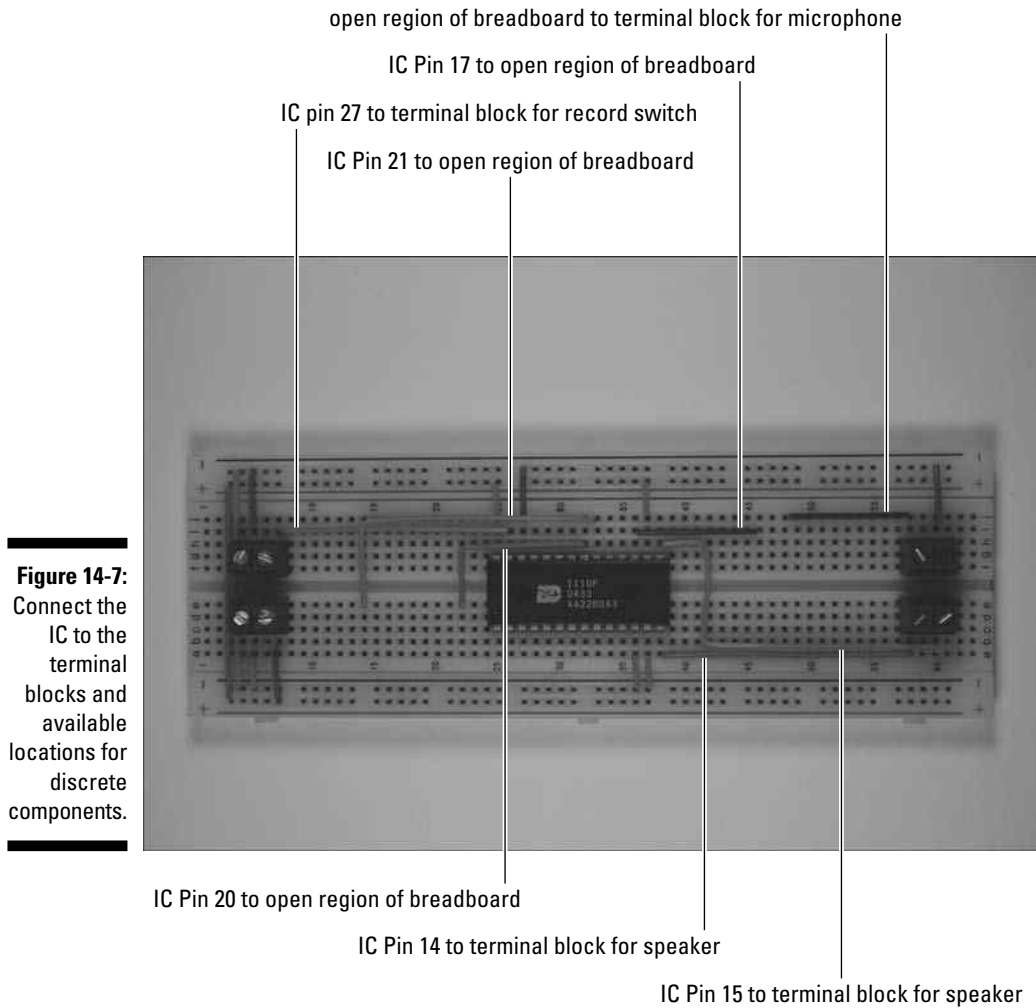

Figure 14-7: Connect the IC to the terminal blocks and available locations for discrete components.
4. Insert wires to connect the voice chip IC to the terminal blocks and to the open regions of the breadboard where discrete components will be inserted, as shown in Figure 14-7.